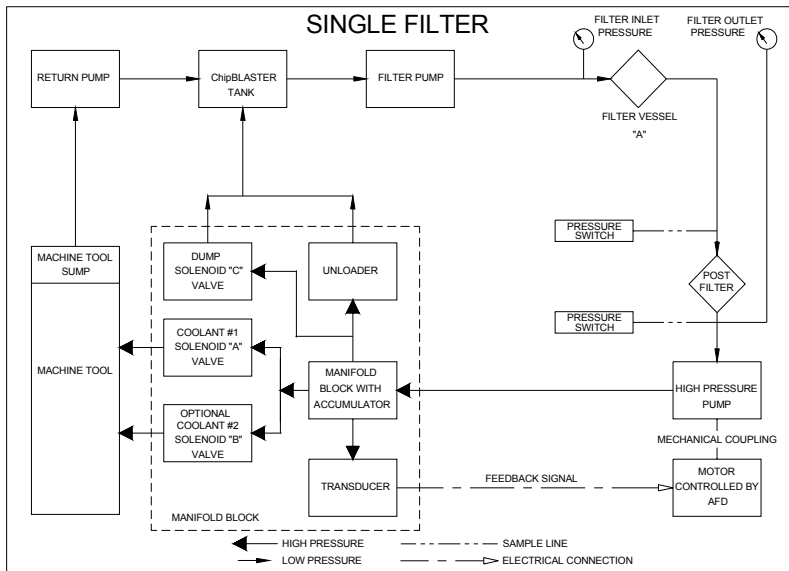

Figure 6 (JV, EV units)
12.2. COOLANT FLOW (Refer to figures 6 through 6b)